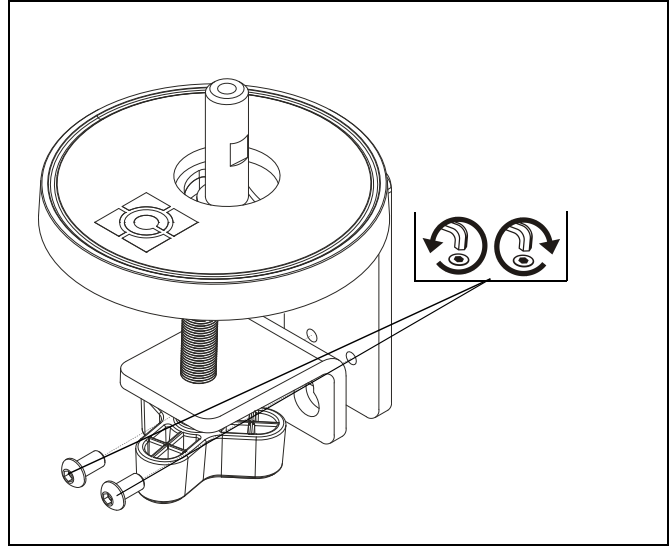

Figure 3
**NOTE:** If space is limited behind desk (i.e. against wall, etc.), remove lower piece of clamp and two screws holding it to the base and reattach parts prior to Step 2! (See Figure 3)